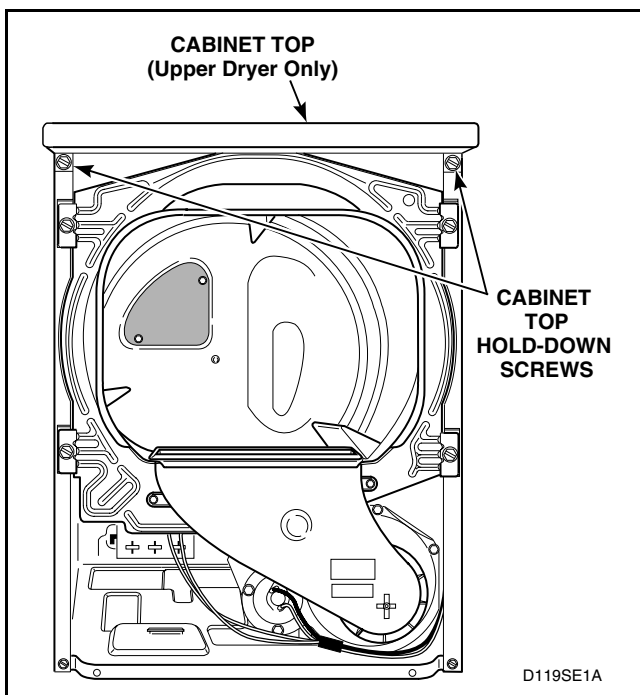

Figure 19
- Remove two screws holding cabinet top hold-down brackets to front flange of cabinet. Refer to *Figure 19*.